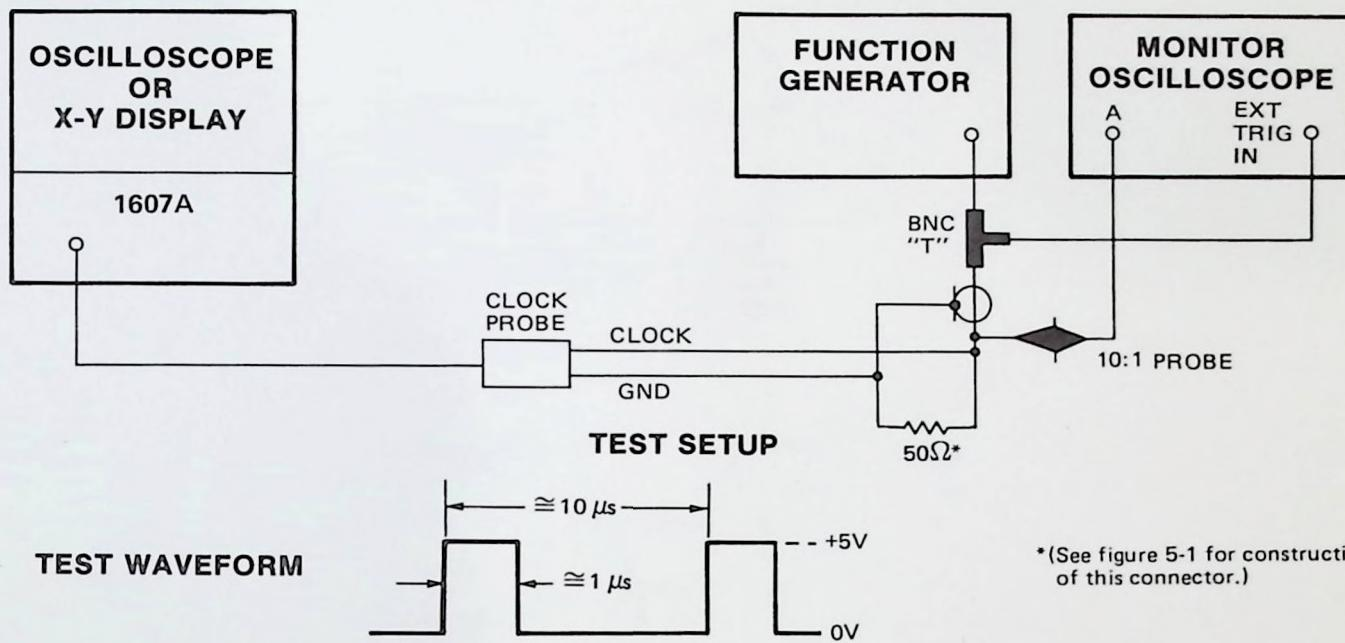

Figure 5-9. Timing Adjustment Setup
a. Connect equipment as shown in figure 5-9.